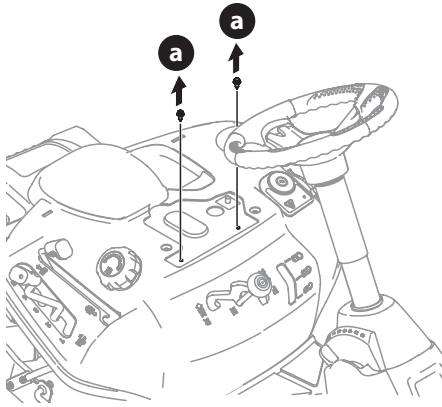

Figure 7
2. Remove the two self-tapping bolts (a) factory-installed on the riding mower (Figure 7).